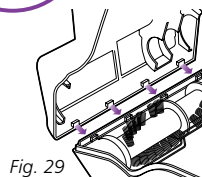

Fig. 29
- To reassemble, insert the tabs on the front edge of the bottom cover into the matching holes in the top half and tilt it back down until it clicks into place. (Fig. 29)